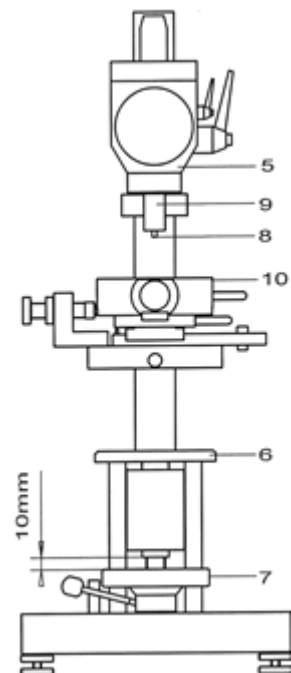

Fig. 2 Test stand
- Set height adjustment lever (2) of the positioning device for position "A".
- Rotate knurled wheel (11) until pointer of dial gauge (12) points to "4".
- Move positioning device up by turning hand wheel (7, fig. 2), so that pressure plate (8) is between the centring pins (1) and in a distance of ≈ 1 mm to supporting table.